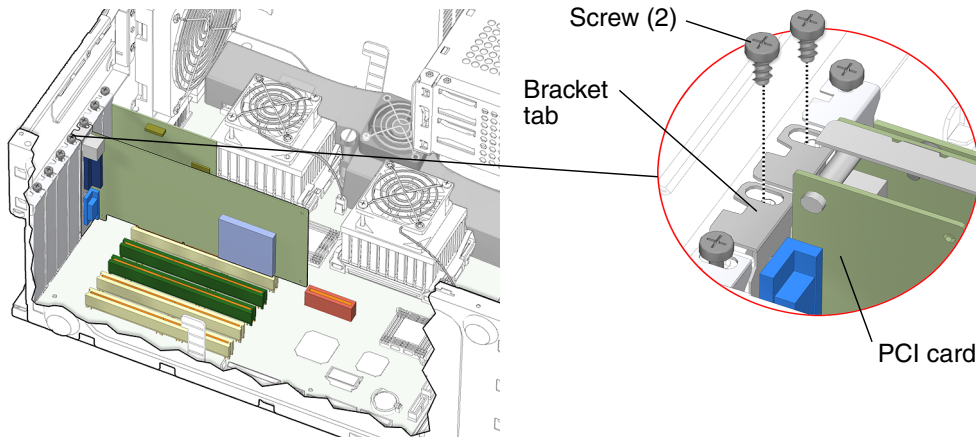

FIGURE 11-28 Removing the PCI Card Bracket Tab Screw
5. Unfasten the screw(s) for the PCI card (FIGURE 11-28).